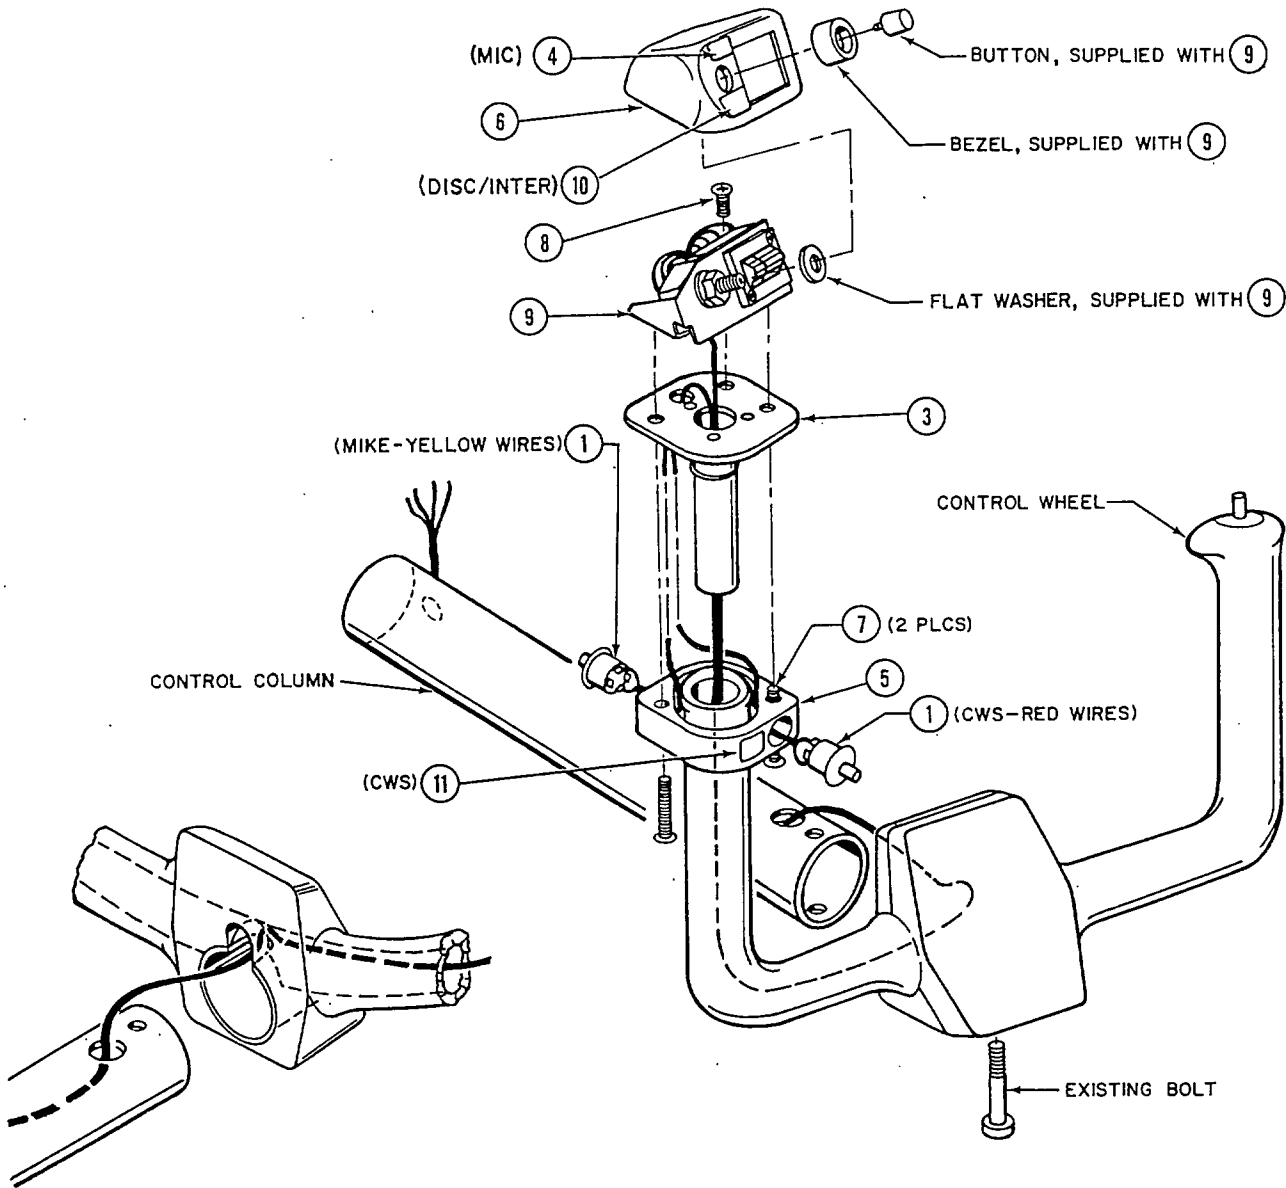

FIGURE 4-B SWITCH INSTALLATION
- H. Apply the CWS decal (057-2869-02) (Item 11) to the switch cap base and the A/P Disc decal (057-2869-01) (Item 10) and MIC decal (057-2869-00) (Item 4) to the switch cap cover (088-1517-01) (Item 6) as shown in Figure 4-B.